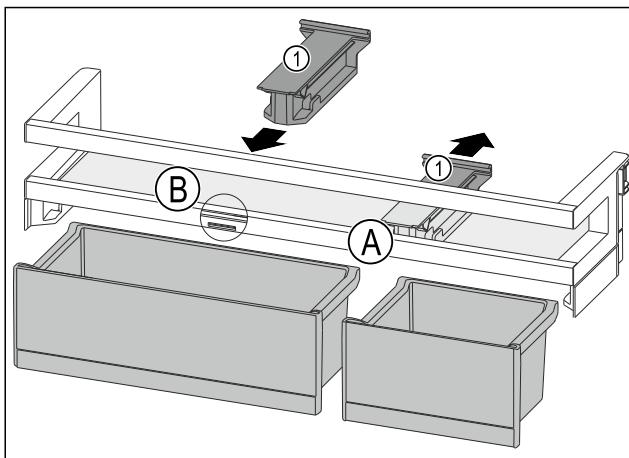

Fig. 114
- ▶ Take off the holding part Fig. 114 (1) in position Fig. 114 (A) backwards.
- ▶ Insert the holding part Fig. 114 (1) in position Fig. 114 (B).